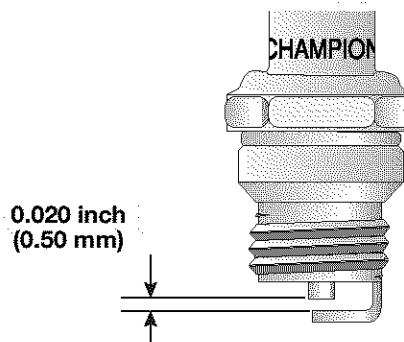

Fig. 28
Use a Champion RDJ7Y spark plug (or equivalent). Correct air gap is **0.020 in. (0.50 mm)**. Remove plug after every **25 hours** of operation and check its condition (Fig. 28).
3. Set the air gap at **0.020 in. (0.50 mm)** using a wire feeler gauge (Fig. 28). Install a correctly gapped spark plug into the cylinder head. Torque to **110-120 in·lb (12.3-13.5 N·m)**.